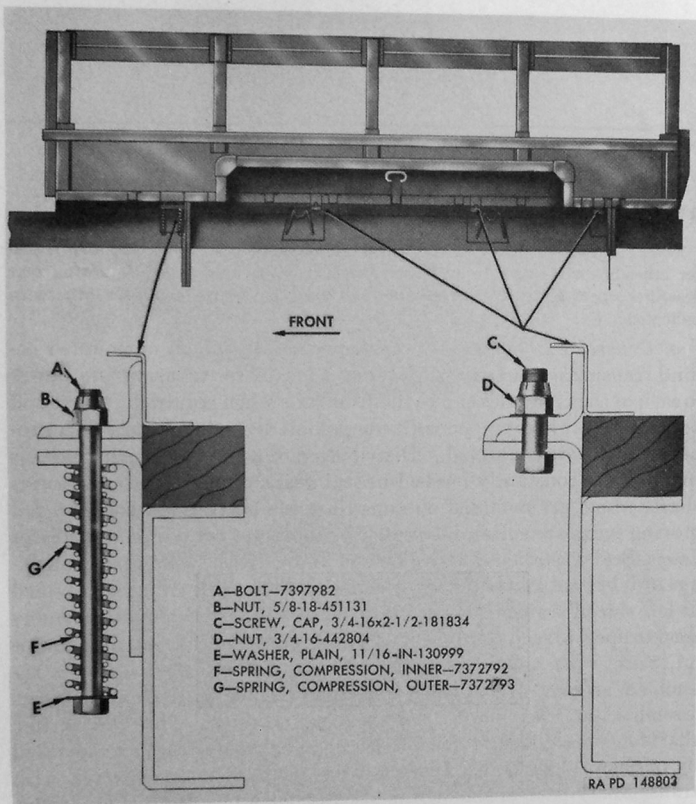

Figure 46. Cargo body mountings.
*Note.* Key letters in following text indicate connect points and refer to figure 46.